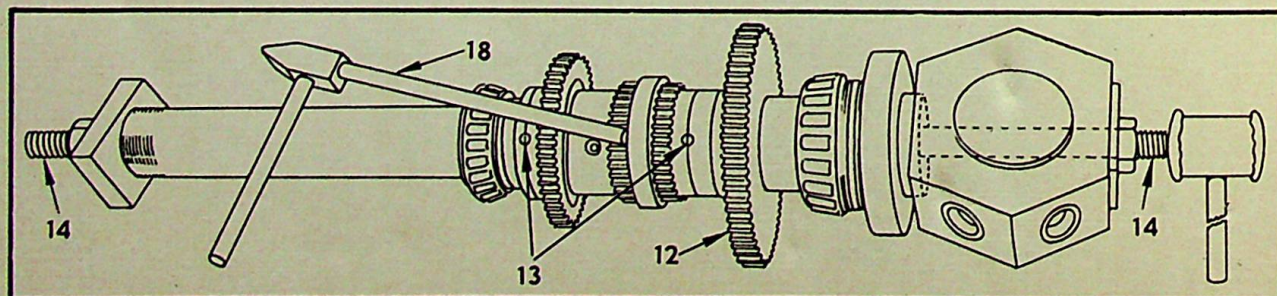

FIG. 54 Recommended Method—Spindle Assembly
NOTE: Make this bar long enough, so it can also be used for installing the spindle (See item 4, and Fig. 54).
4. Bolt the spindle to the turret face with a long threaded rod (14), (Fig. 54) to hold it in an approximately square position.
6. On No. 4 and 5 Turret Lathes, after inserting this collar and checking once more the alignment of the keyways, drive the gears on the spindle by hitting on a bronze rod, rested against the middle collar (18) Fig. 54.
The turret slide should be free in its ways, and by striking on the right hand bolt end (14) Fig. 54 in time with the blows on the gear, the spindle will gradually enter its seat. Loosen the long threaded rod several times to give the spindle a chance to align itself naturally.